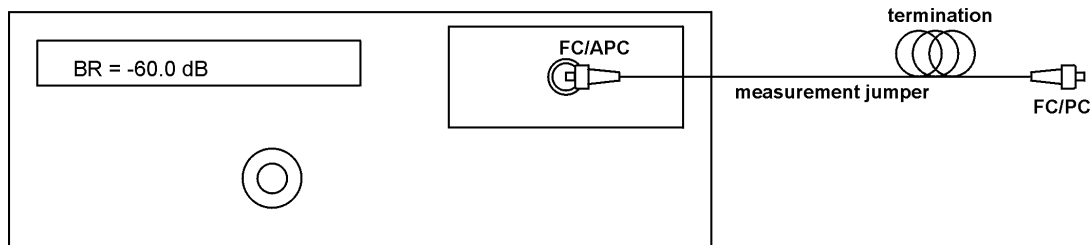
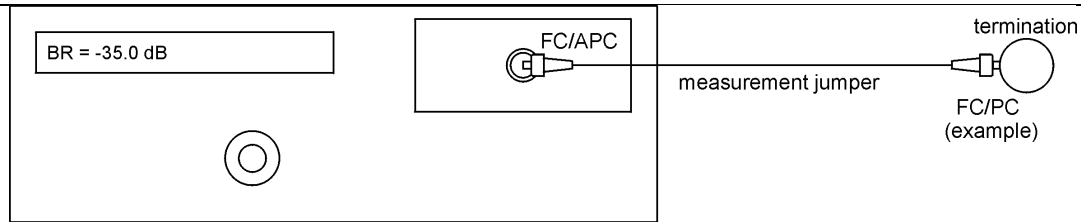

Figure 5a: Terminating the Jumper for BR Measurement for Single-mode (except 980nm)
Figure 5b: Terminating the Jumper for BR Measurement for Single-mode (980 nm only) and Multimode
- Using the size of rod specified in the Inspection Report (see the **Customized Features and Test Data** section), wind the cable around the rod until the reading displayed on the RM meter no longer changes (approximately six turns). The diameter of the rod must be suitable for the type of fiber connected to the output port jumper and for the wavelength in use. To minimize any memory of the bends in the cable jacket, do not pull on the cable while winding, and occasionally wind the cable in the opposite direction (figure 5a).
- Apply index-matching gel directly to the fiber end (figure 5b).
6. Terminate the measurement jumper just before the output connector, and hold the termination point steady (figure 5a for single-mode(except 980nm), and figure 5b for single-mode(980nm) and multimode).